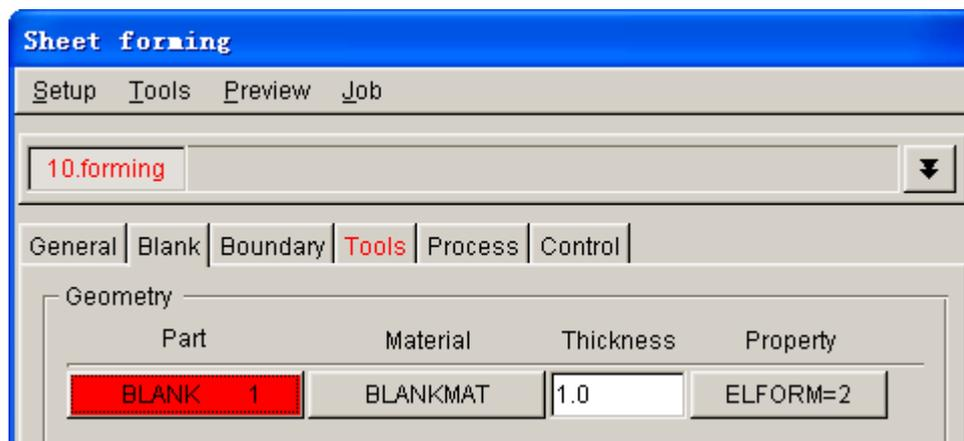

Figure 2.14 Blank definition interface
5. Click **Exit** button to return to the blank definition interface. Now, the color of Blank tab is changed to from RED to BLACK. See Figure 2.14.